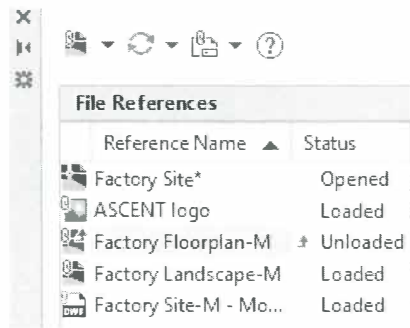

Figure 11–46
9. In the External References palette, unload **Factory Floorplan-M.dwg** (right-click and select **Unload**). Note that the building is removed from the drawing window but the file is still listed in the palette with a red arrow displayed along with it, as shown in Figure 11–46.